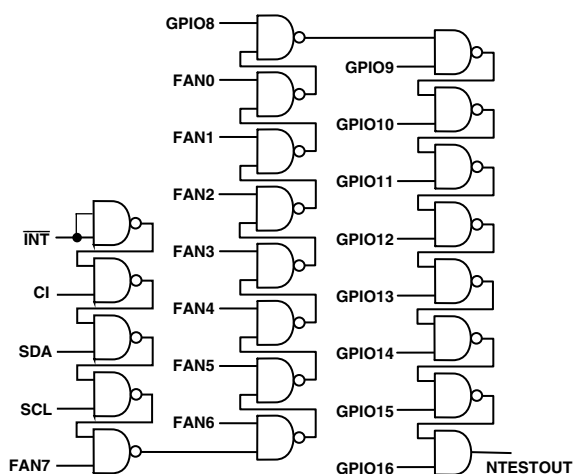

Figure 25. NAND Tree
A NAND tree is provided in the ADM1026 for Automated Test Equipment (ATE) board level connectivity testing. This allows the functionality of all digital inputs to be tested in a simple manner and any pins that are nonfunctional or shorted together to be identified. The structure of the NAND tree is shown in Figure 25. The device is placed into NAND Tree Test Mode by powering up with Pin 25 held high. This pin is sampled automatically after power-up, and if it is connected high, then the NAND test mode is invoked.
2. If any of the inputs shown in Figure 25 are unused, they should not be connected direct to ground, but via a resistor such as 10 k $\Omega$ . This will allow the ATE (Automatic Test Equipment) to drive every input high so that the NAND tree test can be properly carried out.